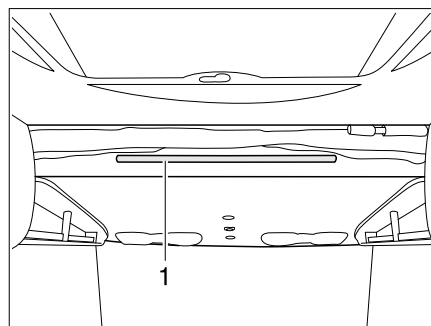

Fig. 168 Electrical pull-down bed
- Hook the access ladder to the pull-down bed by fitting both brackets into the holding bar (Fig. 168,1).